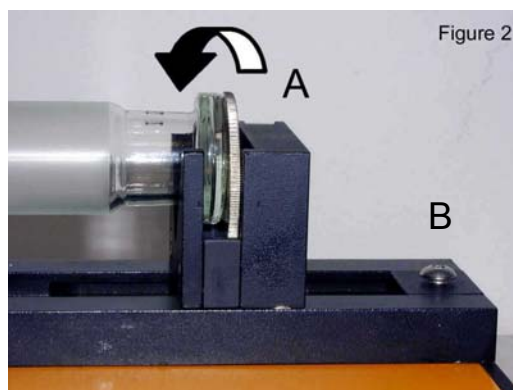

Figure 2
- Select the direction by pressing the direction button ◀▶ and press the **ON/OFF** button to move the pusher block into such a position that the extremity of the syringe plunger can be placed into the pusher between the V-piece and the fixing disc (figure 2). You can use any convenient speed setting to displace the pusher. Movement at maximal speed of the pusher can be obtained by continuously pressing the direction button ◀▶ (in the direction indicated by the LED).
Remark: The maximum filling position of the pusher can be blocked mechanically by a screw in the fixing dice (figure 2 B).